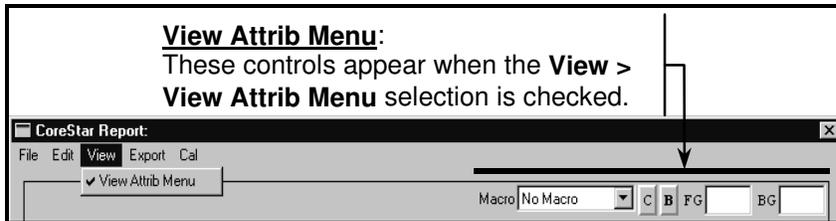

Figure 3-70. View Menu on Report Editor Dialog
Figure 3-70 shows the contents of the **REPORT > View** menu, which contains only (1) selection, discussed below.
- **REPORT > View > View Attrb Menu:** Selecting **View Attrb Menu** from the **View** menu toggles the text enhancement controls shown in Figure 3-70 on and off. If the **View Attrb Menu** selection is checked (as shown), then the controls appear (as shown); otherwise, the menu item is unchecked and the controls are not displayed. These controls work the same as those previously discussed in the *macro* section (*see Macros > Enhancement Tools*). These enhancements can only be applied to headers, footers, and other message-type entries in the report. Tube report entries cannot be enhanced. Furthermore, the **Macro** drop-down box has no effect within the **Report Editor** dialog, but rather is used in the **Macro** dialog discussed earlier.